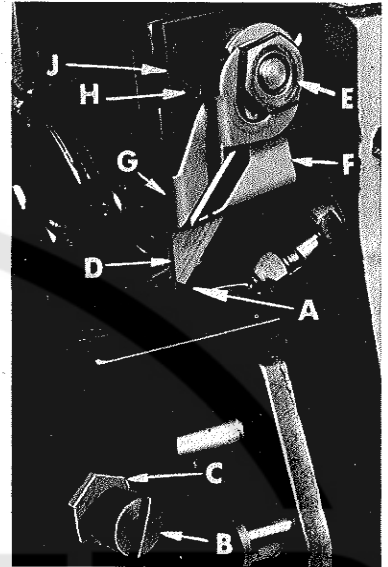

Fig. 14
Replace lower knife holder assembly. Lower knife (A, Fig. 14) should be set with cutting edge flush with throat plate surface. Adjustments are made with hexagonal head screw which holds lower knife. Lower knife is spring pressed against upper knife, so no lateral adjustment is necessary when width of trim is changed.
Replace upper knife assembly. Clamp upper knife (D, Fig. 14) in position, setting nut (E) to hold clamp (F) in its most clockwise position against upper knife. At the bottom of its stroke, front cutting edge of upper knife should extend not less than 1/64 inch (.40 mm) below cutting edge of lower knife. The chain guard (G) should be set down against the upper knife and slightly back from the cutting edge.